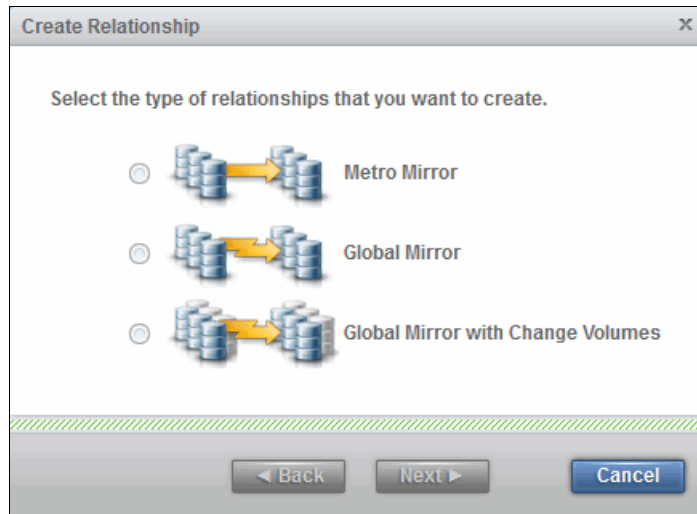

Figure 10-99 Select the appropriate Remote Copy type
- Next, as shown in Figure 10-99, you must set the Remote Copy relationship type. You can select Metro Mirror (synchronous replication) or one of the two forms of Global Mirror (asynchronous replication). Select the appropriate replication type based on your requirements and click **Next**.